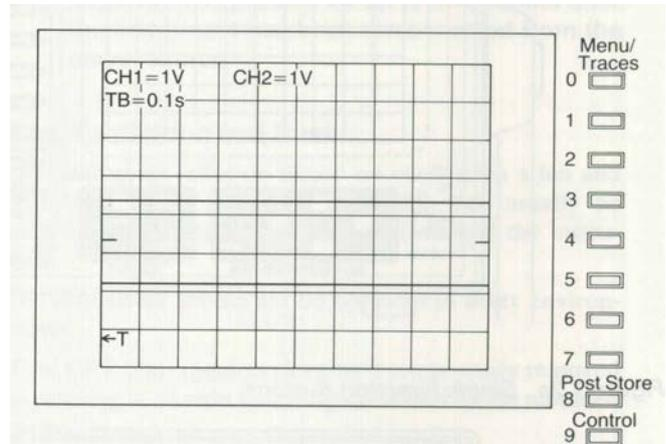

Figure 1.3 Start-Up Display
When switched on with the POWER button (1) , the instrument will go through its automatic self-calibration sequence and then display information similar to that shown in Figure 1.3.